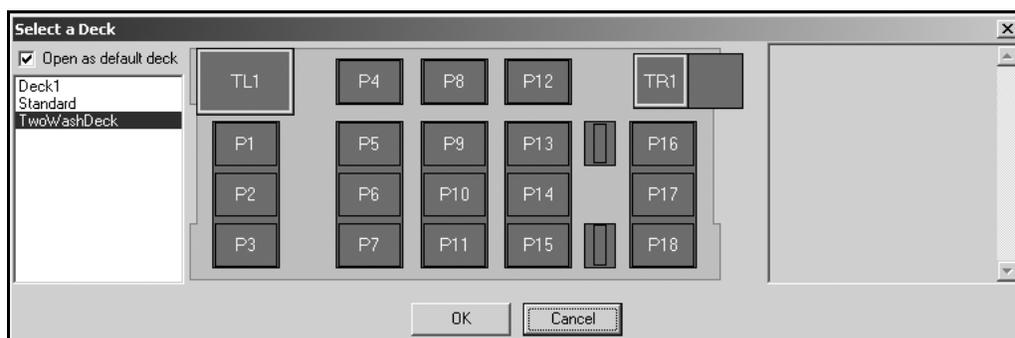

Figure 3-15. Select a Deck
6. Select **Open Deck**. Select a Deck appears (Figure 3-15).